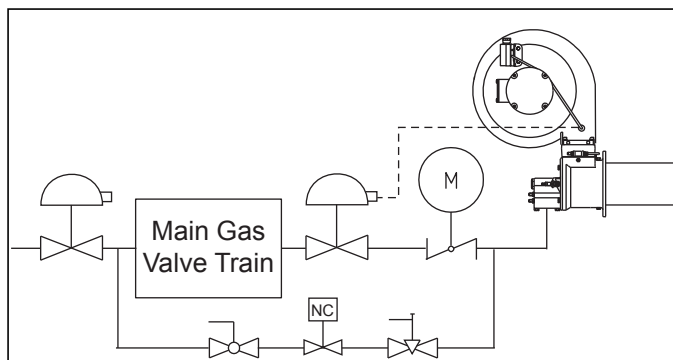

Figure 3.7 Bypass Gas Pressure Regulator via Main Gas Pressure Regulator
- Connect to the main gas line downstream of the main gas pressure regulator. (See Figure 3.7)